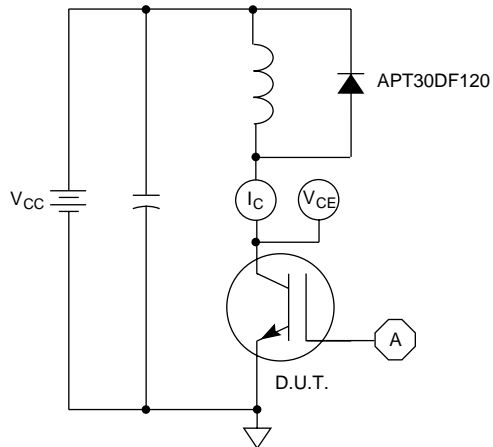

Figure 21, Inductive Switching Test Circuit
- ⑤ E_{on2} is the clamped inductive turn-on energy that includes a commutating diode reverse recovery current in the IGBT turn-on switching loss. (See Figures 21, 22.)
- ⑥ E_{off} is the clamped inductive turn-off energy measured in accordance with JEDEC standard JESD24-1. (See Figures 21, 23.)
- ⑦ Continuous current limited by package lead temperature.